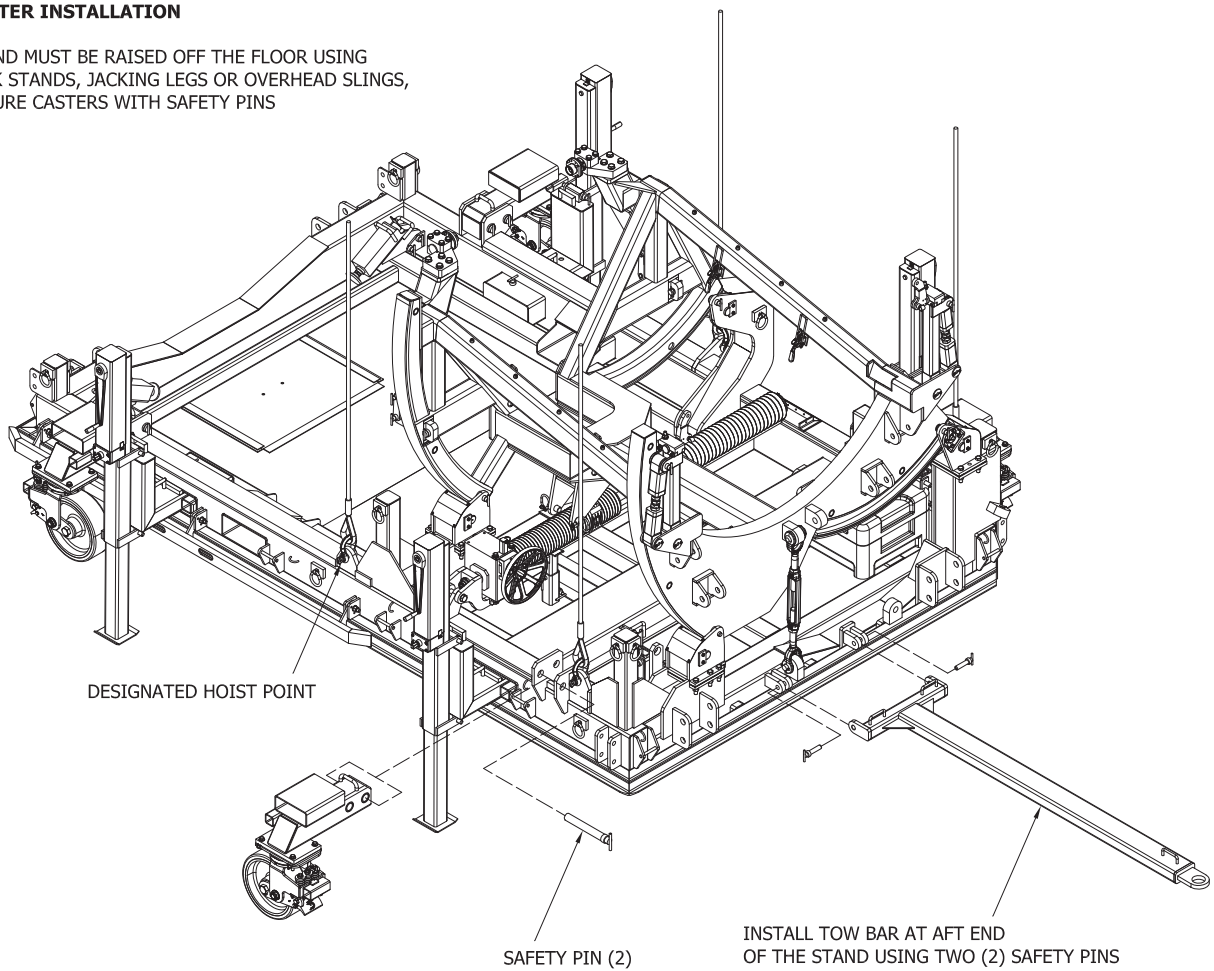

Figure 5.6.1-1 Caster and Tow Bar Installation
5.6.1 Caster and Tow Bar Installation (Figure 5.6.1-1)